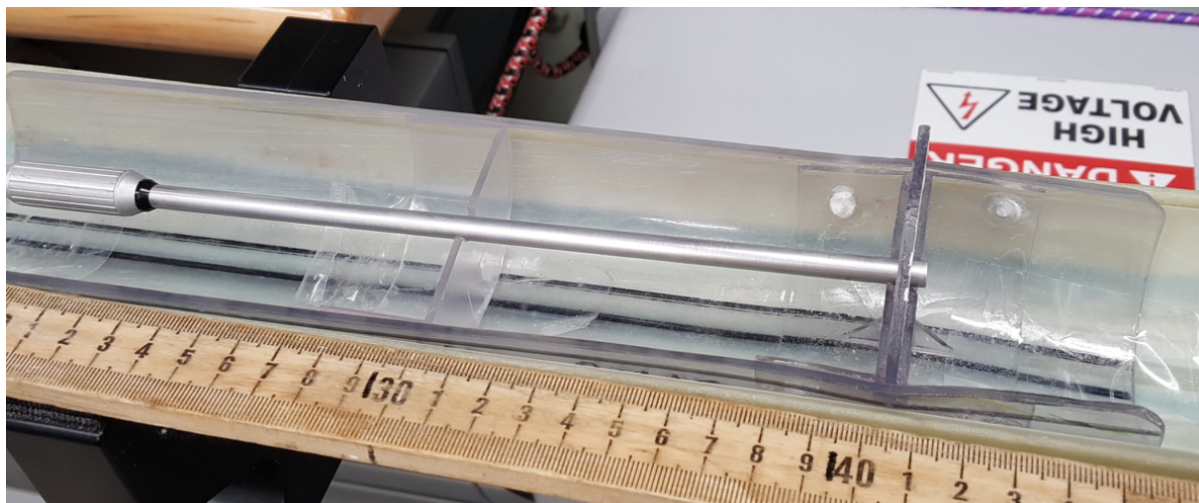

Figure 73 Hall probe in the Z axis orientation
1. Secure the Axial probe in the section half tray with probe end centered at 140 cm from the home switch. The probe should be centered in the bore (**Figure 73**).